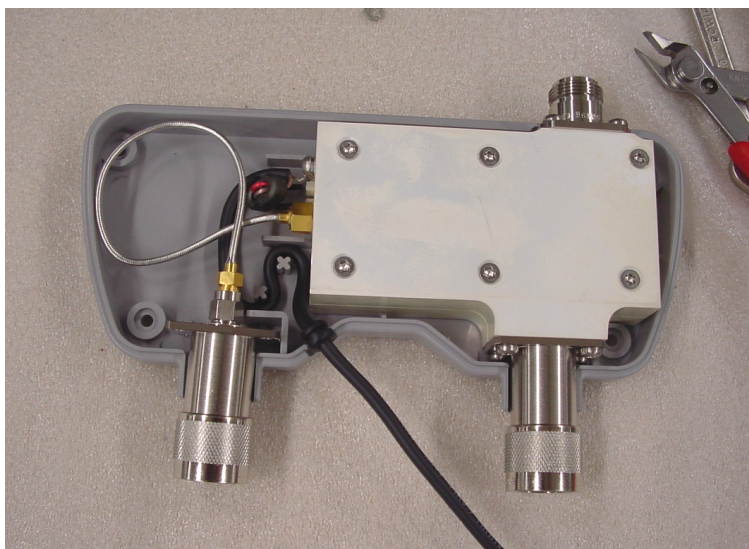

Fig. 3-5 Location of the power cable assy and the coax cable assy in the bottom cover.
- Bend the coax assy as shown in Fig. 3-5